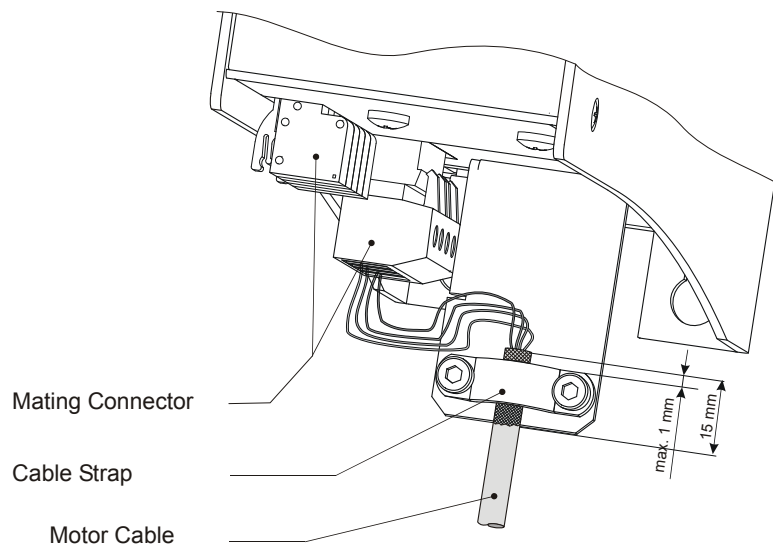

Fig.: 3: Shielding of screw terminals in conformity with the EMC standards
- It is important that shield and strain relief are highly conductive and directly connected to a grounded surface with the greatest possible surface area. When doing so, grounding must be implemented in a way that the unshielded portion of the cable is as short as possible (refer to fig. 3).
-  Fix the cable strap serving as strain relief and motor cable shield next to connector X62 (see fig. 3, page 22).
- Connect the motor lines according to fig. 3, page 22.